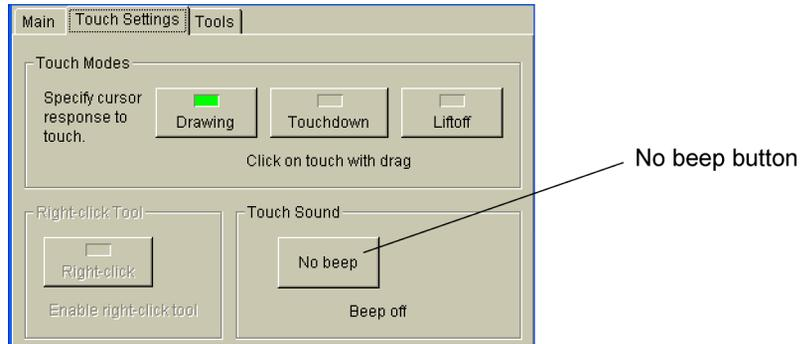

Figure 1-17. Turning the Touch Beep Off
- 4 Each time that you touch the screen, an audible beep is heard. To turn the audible click sound off, select the **Touch Settings** tab. Then, repeatedly click the button shown in Figure 1-17 on page 23 (in the Touch Sound area) until the button's label reads "No beep".